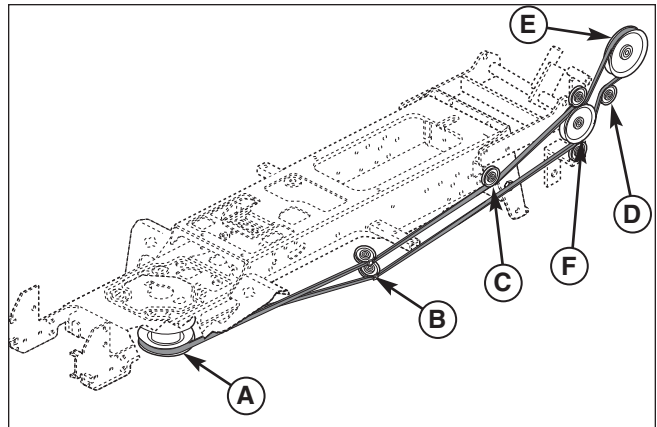

Figure 15. Belt Routing
1. Remove the belt from the spring-loaded tiller idler pulley (D, Figure 15).
7. Install the front pulley assembly (B, Figure 15).
8. Route the drive belt as shown in Figure 15.